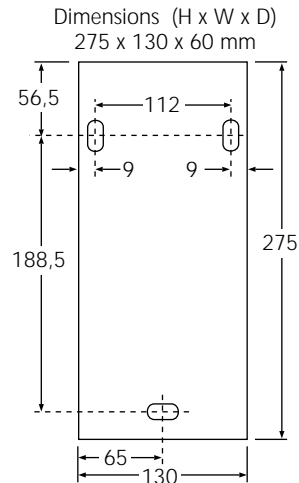

Figure 3. Mounting dimensions for the Alarm Module.
- 1 Remove upper and lower covers. The lower rectangular covers are used to fasten units to each other (1).
- 2 Fasten the module with three screws; see figure 3.